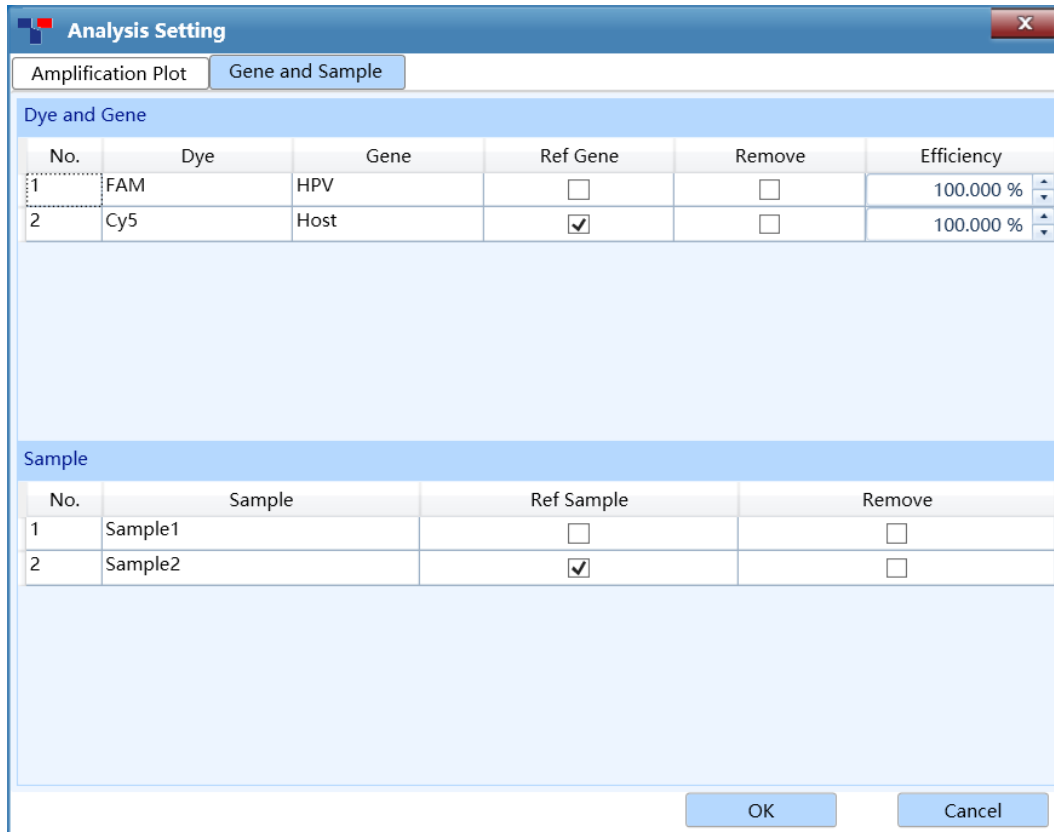

Figure D-12 Rel Quant Analysis Setting interface - Gene and Sample tab
- II. **Gene and Sample** tab: user can set the dye, gene, sample and reference required for the analysis of the current experiment within the gene and sample tab, as shown in figure D-12.